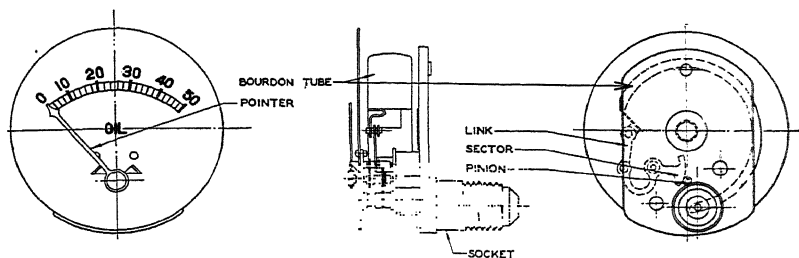

Fig. 38. Geared Type AC Pressure Gauge
**Operating Principle of AC Pressure Gauges.** The common pressure gauge used for registering the amount of pressure developed within the oiling system of the automobile or in the compressed air lines or similar uses is usually of the Bourdon tube type. A cross section of the Bourdon tube would be elliptical in shape. A side view of this is shown in Fig. 38 (center) and at the right an edge view. This tube is so designed that, as pressure comes within it, it tends to enlarge the diameter of the ring in which it is formed. It will be seen that one end of the tube or ring is fastened to a post while the other end is swung free and linked to a sector. This sector, in turn, is connected to a pinion gear. That is, the sector has teeth on it and the little pinion gear also has teeth. The indicating hand is